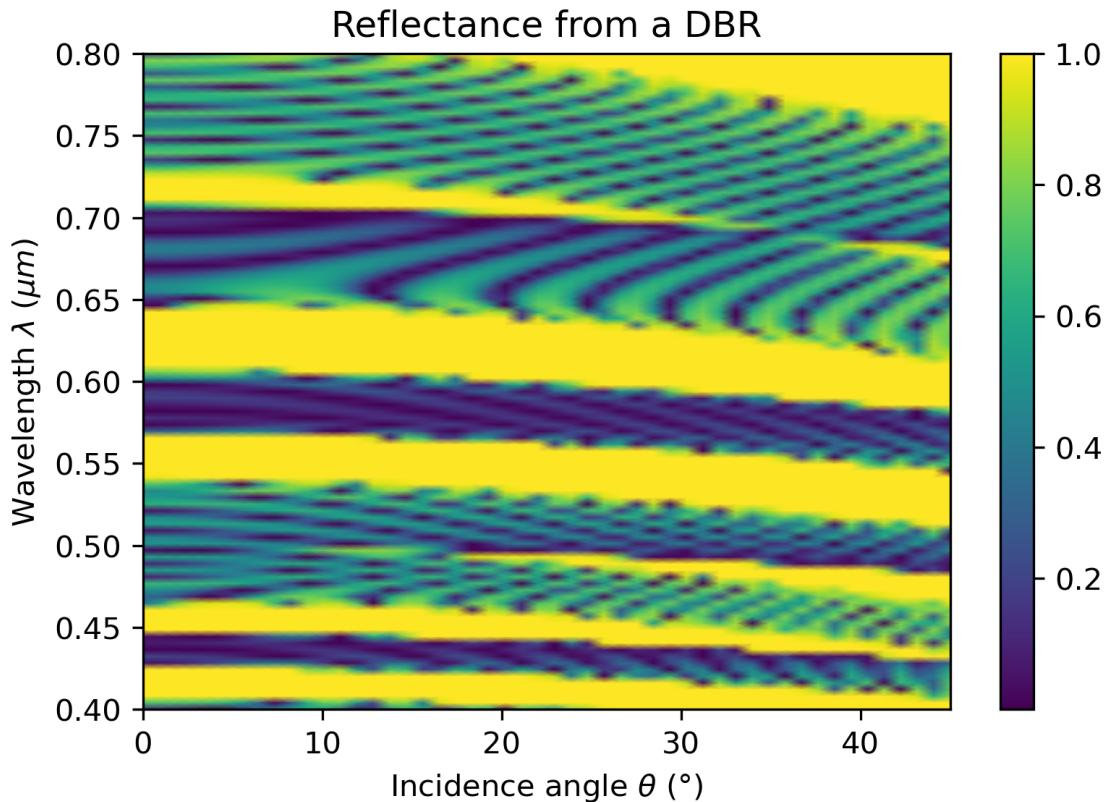

Figure 2.9: Plotting the reflectance against incidence angle and wavelength.
Now we want to create something like in Figure 2.9, i.e. plot the reflectance against incidence angle and wavelength:
9. If you run the code now, you should get the same as in Figure 2.9.